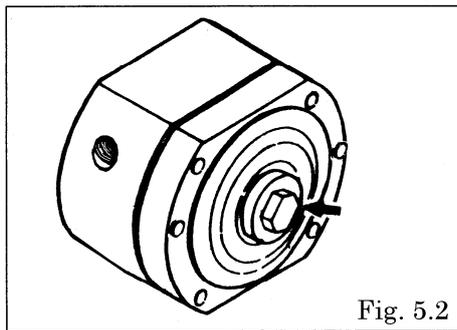

Fig. 5.2
- Remove the center disk from one side. [Fig.5.2]